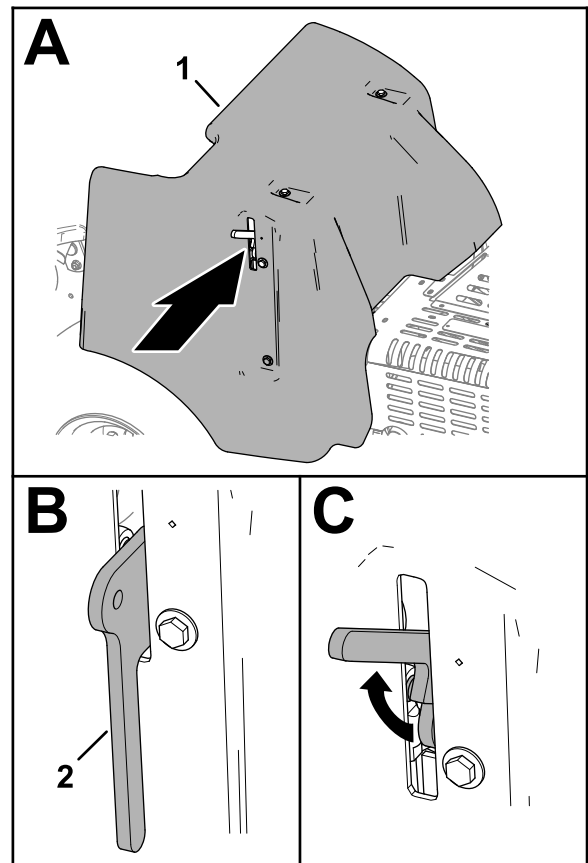

Figure 142
2. Lift the latch handle (Figure 142).